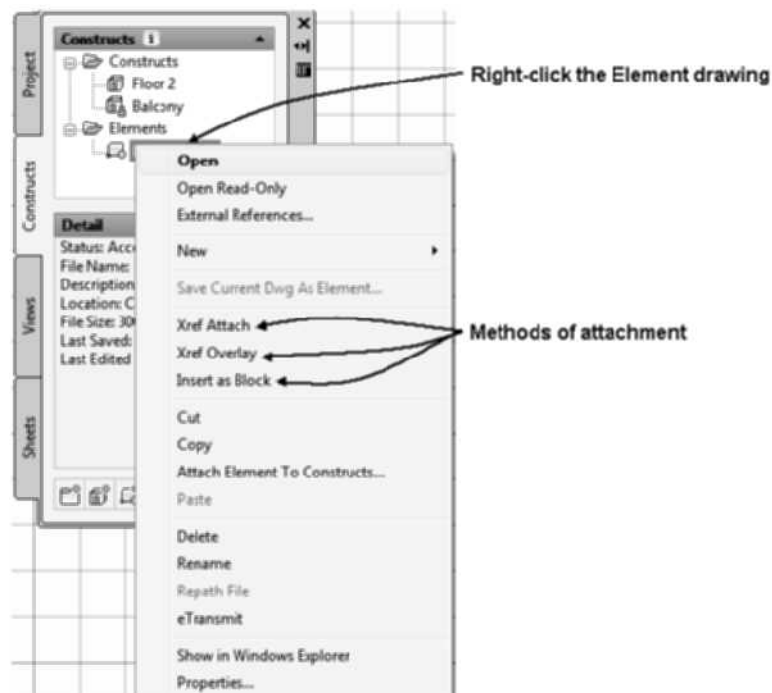

FIGURE 1.75 Adding an element to a Construct drawing
Elements are the simplest drawing unit of the model. The drawing classified as an element can be inserted in several locations of the Construct drawing. When you add an element drawing, its name will appear in the tree of the Project Navigator (see Figure 1.75). You can double-click the name of a drawing in the Project Navigator to open the drawing or select the name of the drawing, right-click, and choose **Open**. Content of the element drawing is created by adding content from AutoCAD Architecture 2011. Save and Close the element drawing before attaching the drawing to a Construct drawing.
2. Select the name of the element drawing in the **Project Navigator** tree, right-click, and choose one of the following: **Xref Attach**, **Xref Overlay**, **Insert as Block**, or **Attach Element to Constructs**, as shown in Figure 1.75.